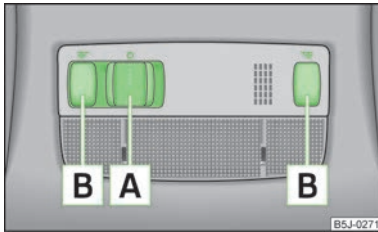

Fig. 27
- Press switch **A** » Fig. 27 towards the middle of the light, the symbol  appears.
- Press switch **A** » Fig. 27 towards the edge of the light, the symbol  appears.
- Press the switch **A** » Fig. 27 in the middle position **O**.
- Press the switches **B** » Fig. 27 in order to switch the right or left reading light on or off.